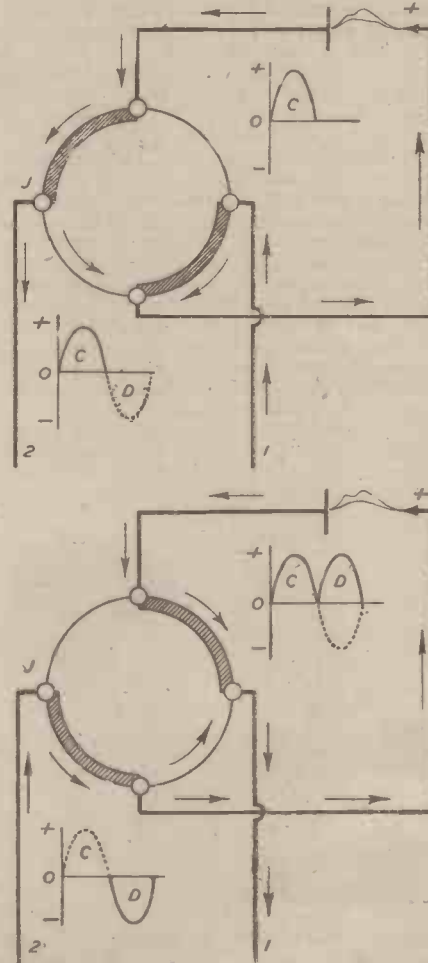

Fig. 11.—Diagrams illustrating the principle of a mechanical rectifier.
This works from an alternating current which causes a rise and fall in the primary circuit, the interrupter being no longer required. By a closed core we mean a continuous ring or rectangle of laminated iron capable of being loaded with more magnetism. The whole primary and secondary windings plus core are placed in a tank of oil, the ends of the secondary being brought through the top to insulated supports, and finally to the X-ray tube. The oil acts as an insulator and also keeps the windings cool. Having currents of equal potential in the secondary circuit flowing in opposite directions, it is, when working with heavy currents, necessary to change this alternating current into a unidirectional one. Two methods are used: (1) mechanical rectifier (Fig. 11), and (2) valve tubes.